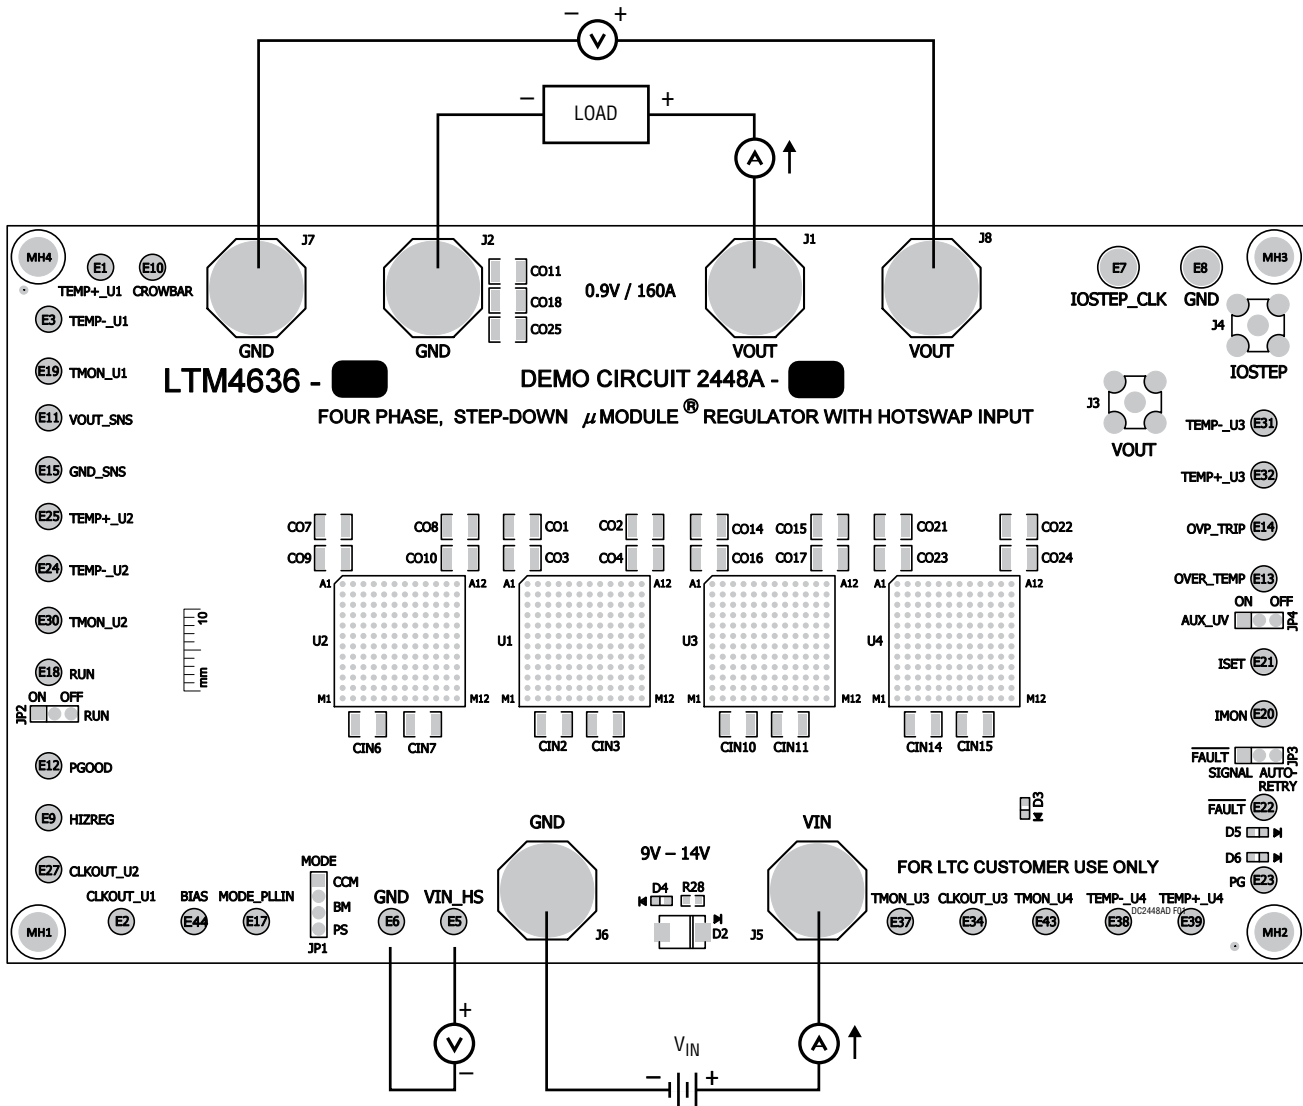

Figure 1. Measurement Setup of DC2448A-D
Demonstration circuit DC2448A-D is an easy way to evaluate the performance of PolyPhase operation of the LTM4636-1EY. Due to the high input/output current, the user should select the proper input supply/load/cable which can sustain the full load operation. Please refer to Figure 1 for proper measurement equipment setup and follow the procedure below:
- With power off, connect the input power supply, load and meters as shown in Figure 1. Preset the load to 0A and V_{IN} supply to 12V.